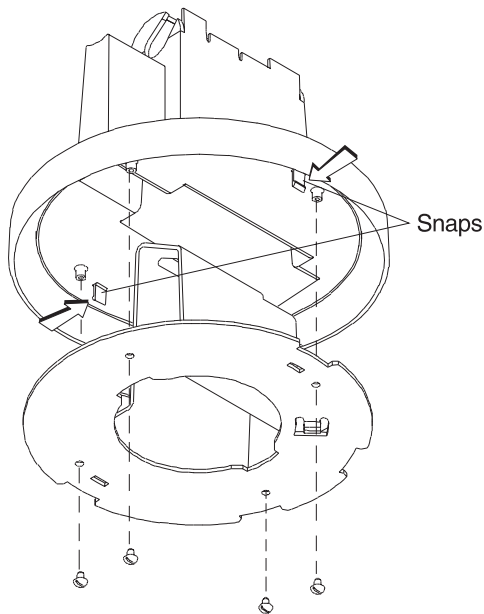

Figure 3-17. Removing the Pedestal Stand
- 8 Press the two snaps as shown in Figure 3-17 and slide the pedestal stand out from the pedestal cover.